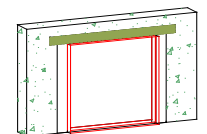

Figure 4
18. Finally, at the door head, embed the flashing into the sealant on the mounting flange and fasten into place. The flashing paper should be cut sufficiently long enough to extend past the flashing paper at each jamb by at least 3 in. (See fig. 4)